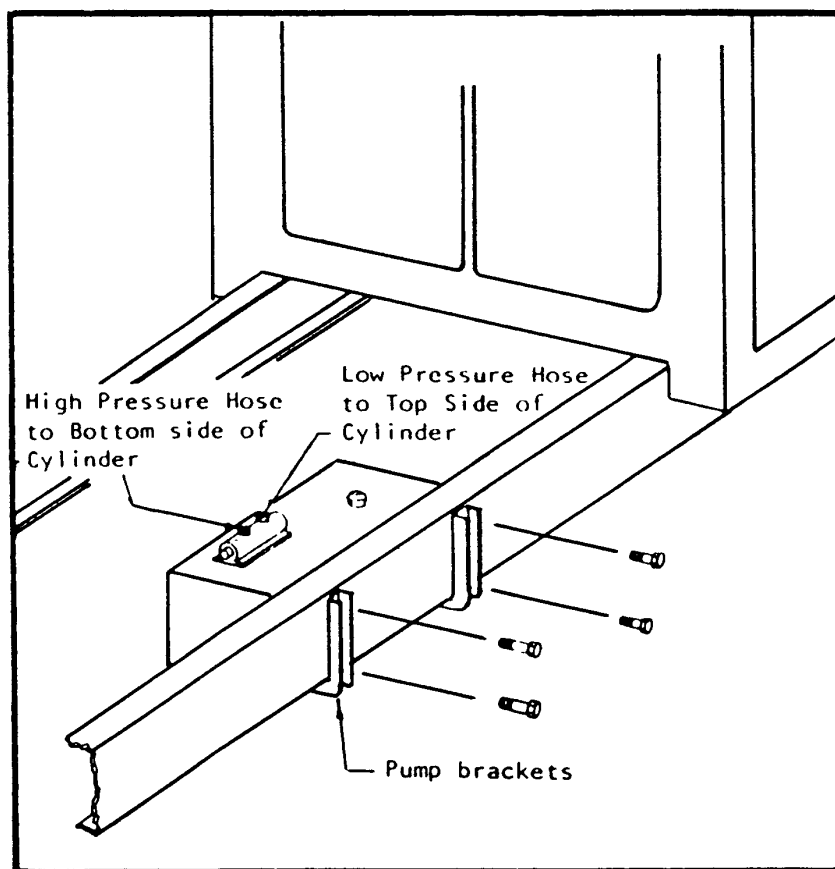
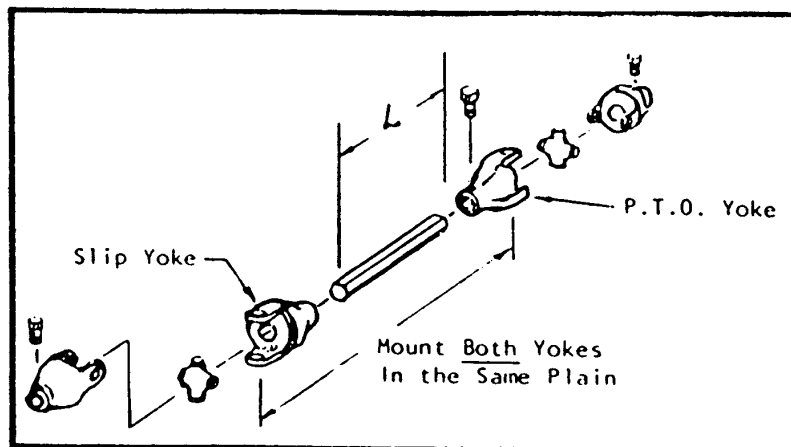

FIGURE 4 - PUMP INSTALLATION
FIGURE 5 - DRIVE SHAFT ASSEMBLY
- 1.a. See Fig.4 , position and bolt each pump bracket to the pump and secure with the $\frac{3}{8}$ x $1\frac{1}{4}$ " bolts and hex nuts.
- c. Two (2) $\frac{17}{32}$ " Dia. holes need to be drilled in the pump brackets and truck frame (see Fig.4). Mark the hole locations as close to the truck frame flanges as possible. Drill $\frac{17}{32}$ " Dia. holes and install the $\frac{1}{2}$ x $1\frac{1}{2}$ " hex head cap screws with lockwashers and hex nuts.
- b. Determine the exact length "L" of the drive shaft (see Fig. 5). The drive shaft should be kept as short and level as possible.
- d. The two (2) supplied U-joints are not identical, the U-joint with the 1" round x 7/8" hex slip is to go on the pump drive shaft and the 7/8" round x 7/8" hex U-joint (not furnished) or other size - is to go on the truck P.T.O.
- f. Assemble each U-joint to the hex drive shaft and install the drive shaft assembly. After installing, secure P.T.O. U-joint to the drive shaft using 3/8" x 5/8" drilled hex head set screw (furnished). Safety wire all (3) screws to insure that they do not come loose.
3. Hose Connections - (See Fig.4, See 416138 for split pump)